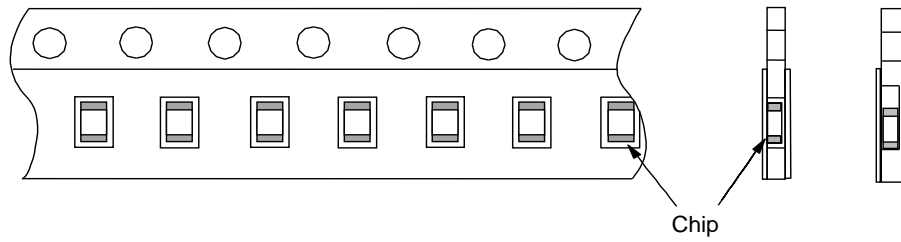

Fig.2 Dimensions of Reel
| | |  <p>Fig. 1 t : 0.8mm</p> | <p>Solder the capacitor on the test jig (glass epoxy board) shown in Fig1. Then apply a force in the direction shown in Fig 2 for 60s.</p> <p>The soldering should be done by the reflow method and should be conducted with care so that the soldering is uniform and free of defects such as heat shock.</p> <table border="1" data-bbox="976 474 1426 521"> <thead> <tr> <th>Type</th> <th>a</th> <th>b</th> <th>c</th> </tr> </thead> <tbody> <tr> <td>GCQ15</td> <td>0.5</td> <td>1.5</td> <td>0.6</td> </tr> </tbody> </table> <p>(in mm)</p>  <p>Fig. 2</p> | Type | a | b | c | GCQ15 | 0.5 | 1.5 | 0.6 |
1.11 Reel is made by resin and appeaser and dimension is shown in Fig 2.